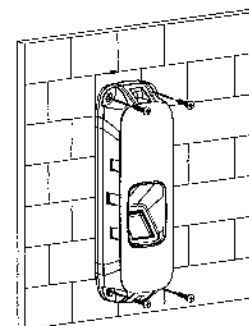

Figure 3-1
Step 1. Remove front cover, fix the device on wall via screw 1. See Figure 3-1.